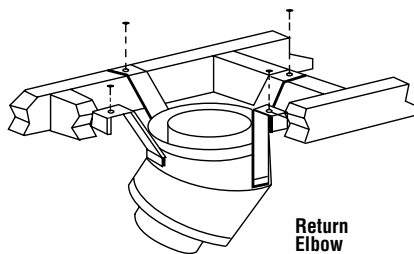

Figure 38
**Step 5.** Secure support straps to framing members by nailing under tension in shear (Figure 38).